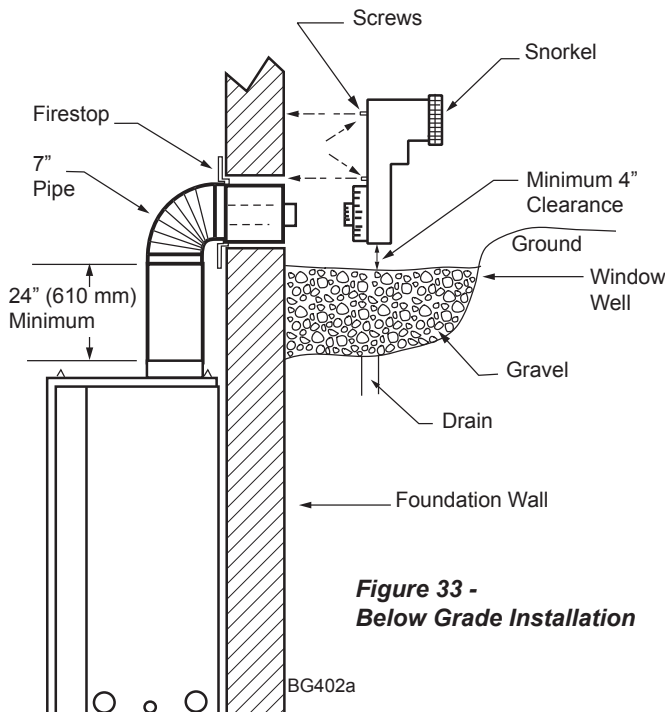

Figure 33 - Below Grade Installation
2. Remove soil to a depth of approximately 16" below base of snorkel. Install drain pipe. Install window well (not supplied). Refill hole with 12" of coarse gravel leaving a clearance of approximately 4" below snorkel. *Figure 33*
7. Level the soil so as to maintain a 4" clearance below snorkel. *Figure 33*